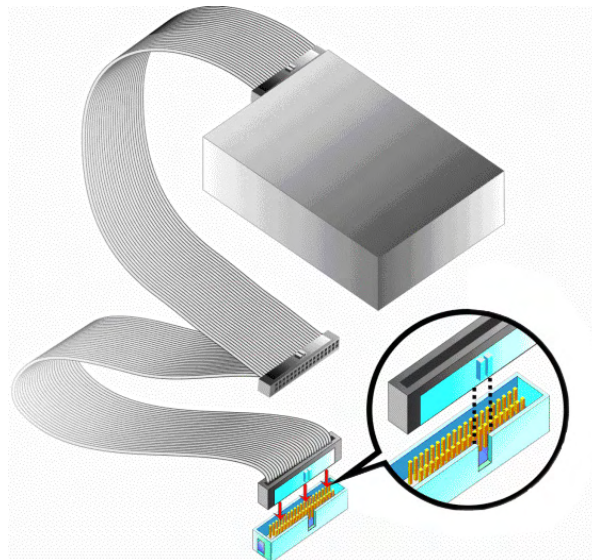

Figure 5-10: IDE Cable Connection
Step 2: **Insert the connector.** Connect the IDE cable connector to the onboard connector. See **Figure 5-10**. A key on the front of the cable connector ensures it can only be inserted in one direction.